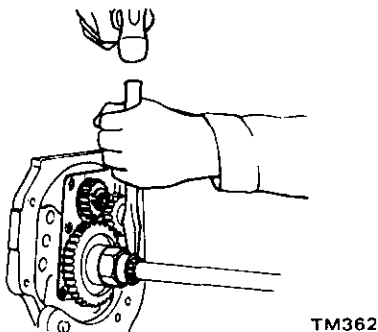

Fig. MT-39 Staking mainshaft nut
10. Tighten mainshaft nut to 14.0 to 17.0 kg-m (101 to 123 ft-lb) torque, and stake mainshaft nut to groove of mainshaft with a punch. See Figure MT-39.